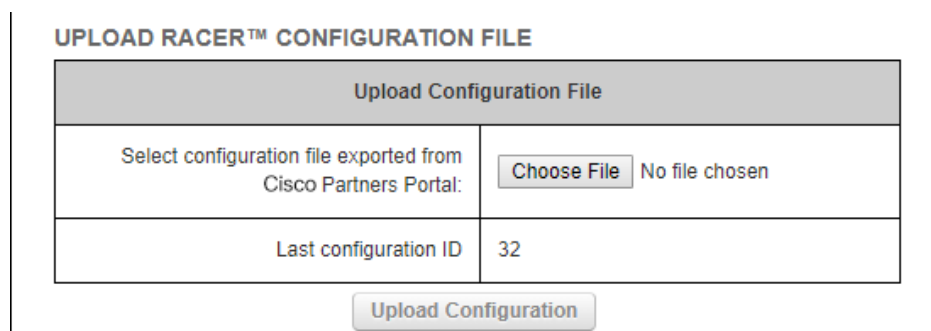

Figure 23. Configurator interface (FM Racer configuration file upload dialog)
3. Click the **Choose File** button in the **Upload Configuration File** section (Figure 23 (page 43)).